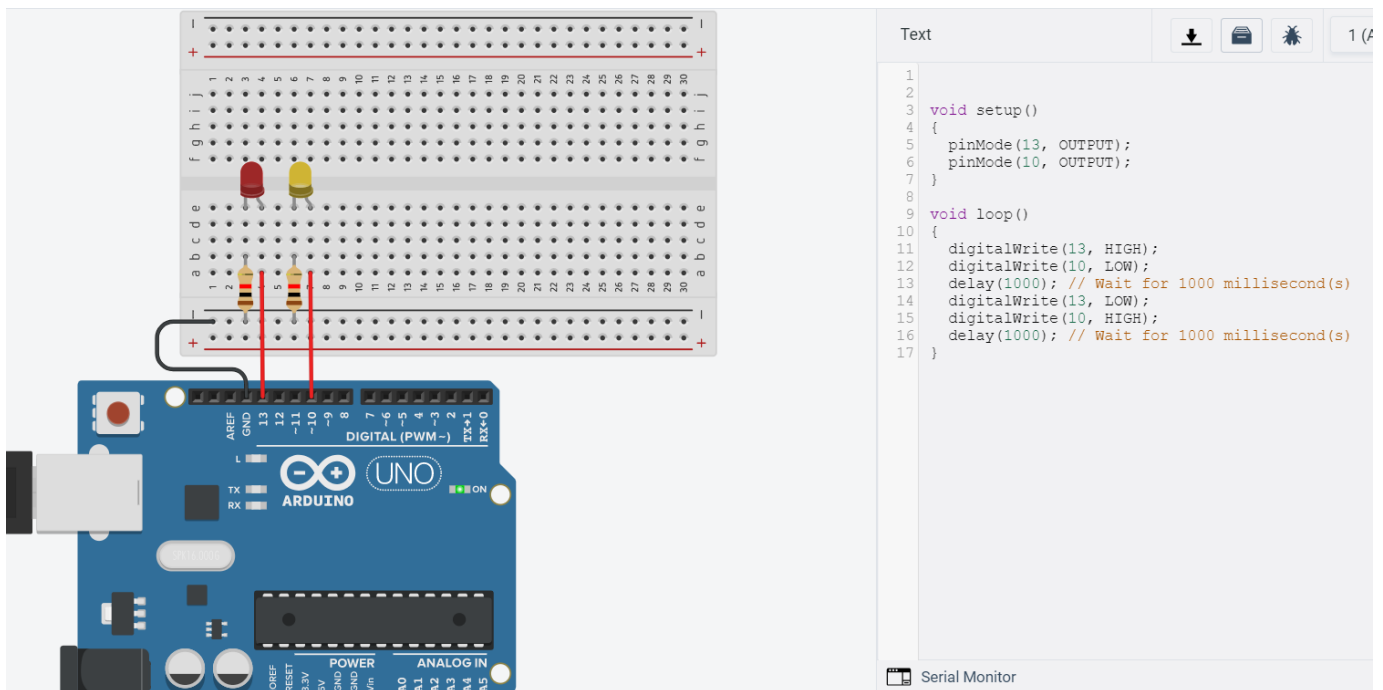

Figure 7: Displays the circuit as well as the program required to blink the LEDs.
2.1. To the right of Figure 7 a code should be present.